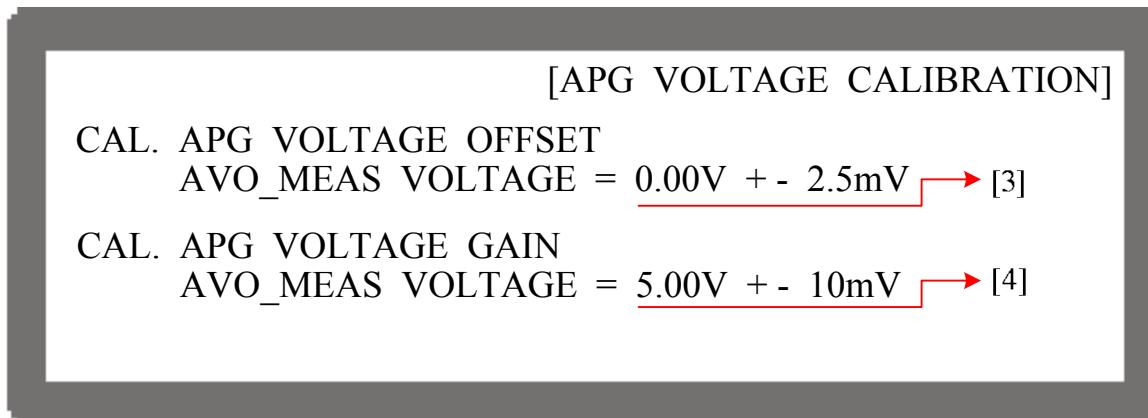

Figure 3-120
6. Press  again the cursor stops at position [3] as Figure 3-120 shows. Open the device cover to find VR402 (adjustable resistor) on the PCB of 62xxxP-xx-xx C ver.x. Make the DVM2 reading of Pin5 to be 0.00V±2.5mV by adjusting the resistance of VR402. Once the reading is adjusted correctly, press  to confirm it.
7. Press " again the cursor stops at position [4] as Figure 3-120 shows. Open the device cover to find VR401 (adjustable resistor) on the PCB of 62xxxP-xx-xx C ver.x. Make the DVM2 reading of Pin5 to be $5.00V \pm 10mV$ by adjusting the resistance of VR401.